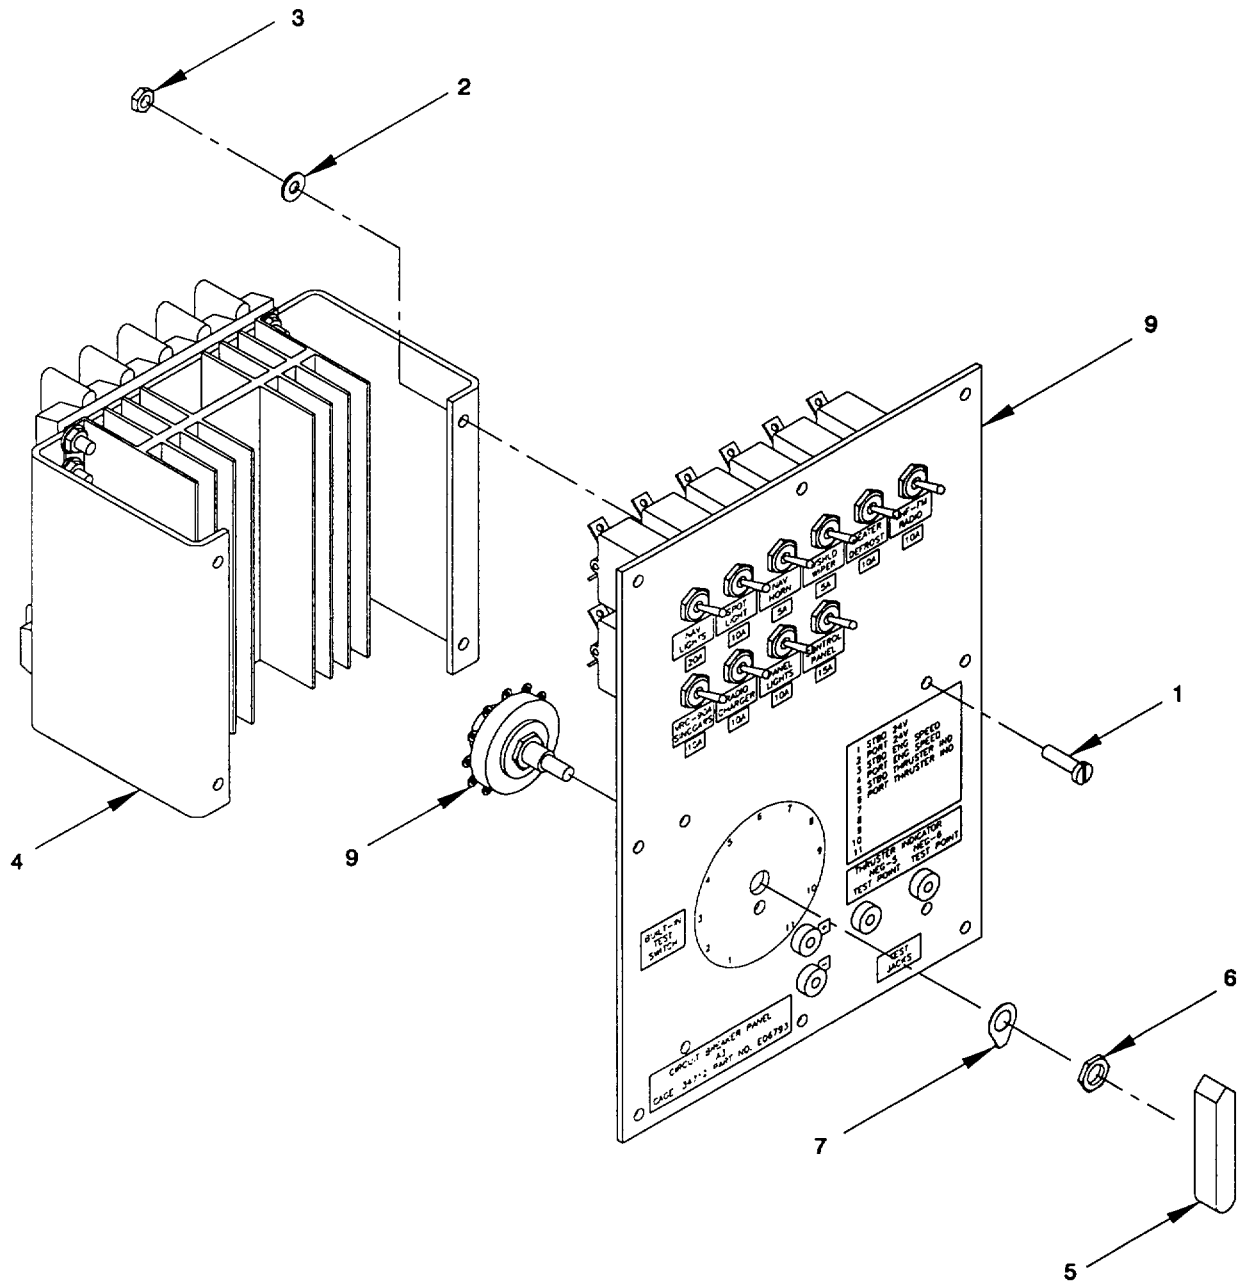

Figure 2-132. Rotary Switch, Operator's Cab Circuit Breaker Panel "A3", Remove/Install.
- a. Remove. (figure 2-132)
- (1) Remove pan head screws (1), lock washers (2), hex nuts (3) and lift heat sink and bracket assembly (4) from the front panel (9).
- (2) Disconnect electrical wiring to switch and tag OUT OF SERVICE. Remove the bar pointer knob (5) from the shaft of the switch. To remove the built-in rotary switch S1 (8), remove hex nut (6) and washer (7), supplied with each switch, from the front side of the panel (9).
- b. Install. (figure 2-132)
- (1) Apply antiseize compound to threads on pan head screws (1) and hex nut (6).
- (2) Position the rotary switch S1 (8) and replace the hex nut (6) and washer (7). supplied with each switch, to the front side of the panel (9). Replace the bar pointer knob (5) on the shaft of the switch. Reconnect the wiring as previously tagged.
- (3) Position the heat sink and bracket assembly (4) on the front panel (9) and secure with pan head screws (1), lock washers (2) and hex nuts (3).